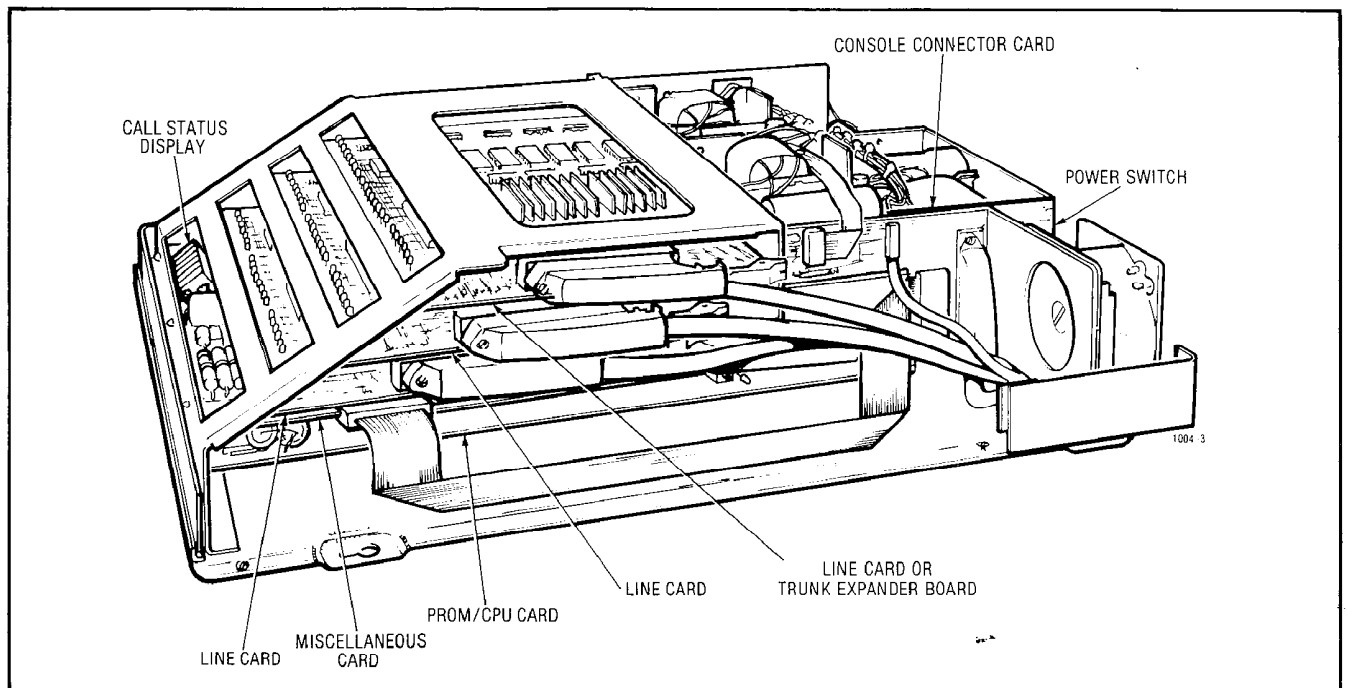

Fig. 7-1 SX-20 Equipment Layout
**7.01** The SX-20 equipment cabinet consists of a metal chassis and a moulded plastic cover. The removable cover allows access to the circuit cards and power supply held on the equipment chassis (Fig. 7-1). The system uses three main types of circuit cards, line cards, miscellaneous card, and the PROM/CPU card. Each of the card types have a keyed connector preventing a card from being plugged into the wrong card slot.